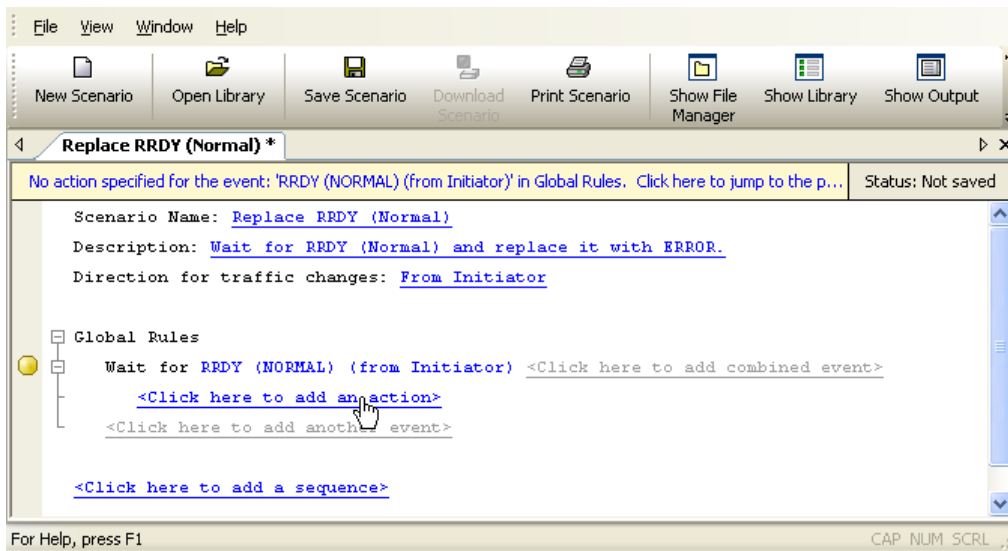

Figure 5.12 Example 2: Entering the Action
Step 4 In the Global Rules area, click on the prompt to **add an action** (Figure 5.12).